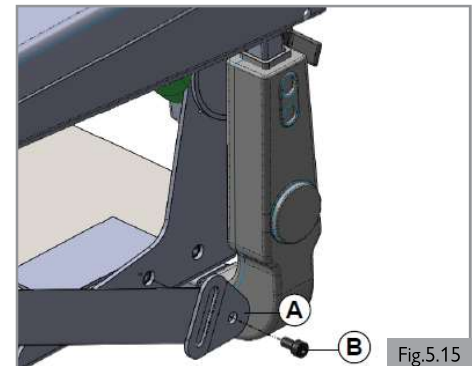

Fig.5.15
1. Attach (A) to the seating frame using provided screws on the left and on the right. (Fig. 5.15)
2. Tighten (B). See section 8 for specified torque values.